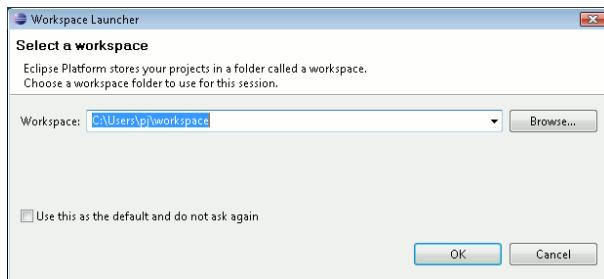

Figure 4.1: This screenshot shows the dialog box for the choice of the current workspace directory.
2. A dialog box will appear, prompting to choose the right workspace (see Figure 4.1). Leave the default workpackage directory as it is, and proceed by pressing “OK”.
10. A dialog box appear. Please select the `pic30.cof` file that has been produced by the compilation process in Eclipse, as shown in Figure 5.10. You can find that file inside the Eclipse workspace you selected at the beginning in Figure 4.1. In this example, the file is stored inside the directory `c:\Programmi\Evidence\eclipse\workspace\pic30_oo_mono\Debug`.